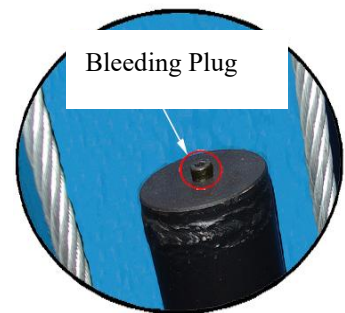

Fig. 45
3. Bleeding air from oil cylinder (See Fig. 45)